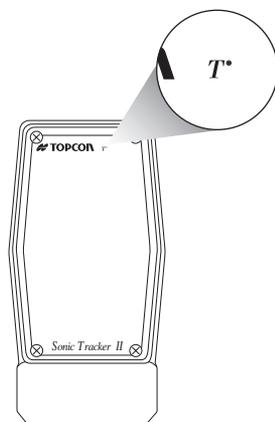

Figure 9-3. Temperature Bail Symbol Indicating Code Revision
4. Tracker can also be checked by verifying code revision. Turn box off and back on. Watch the temperature bail symbol in the top right portion of the tracker (Figure 9-3). The “T” symbol will flash a certain number of times, pause and flash again to indicate the revision of its code.